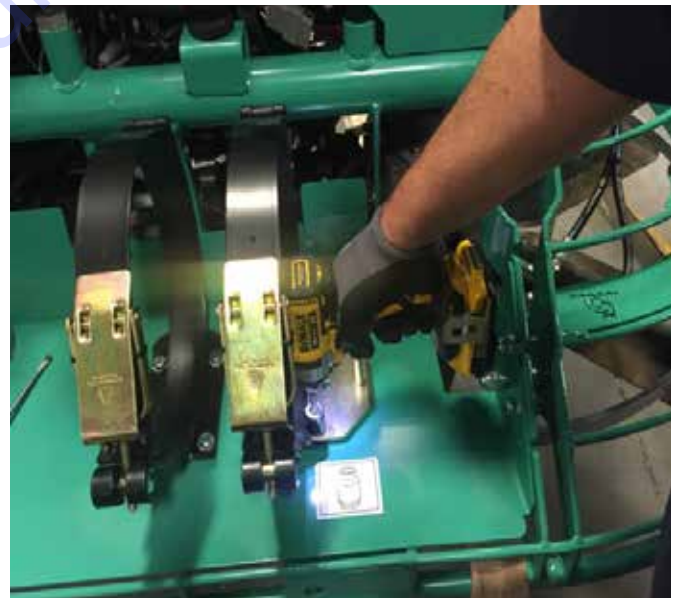

Figure 6. LPG Tank Strap Removal
5. Remove LPG retaining straps (Figure 6). Set bolts and LPG retaining straps aside.